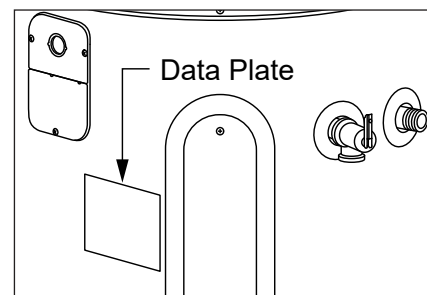

Figure 24 - The water heater’s electrical requirements can be determined from the data plate.
- 3 This water heater requires a 208/240 VAC single phase 30 amp power supply, at 50Hz or 60Hz. Check the water heater’s data plate (Figure 24) and ensure that the home’s voltage, wiring size (ampacity)